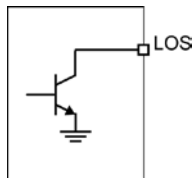

Figure 2g. LOS Output Structure
The post amplifier generates a selectable chatter-free loss-of-signal (LOS) or signal detect (SD) open-collector TTL output as shown in Figure 2g. LOS/SD is used to determine that the input amplitude is too small to be considered as a valid input. When the LOSS function is selected ( $LOS/SD\_SEL=1$ ), LOS/SD asserts high if the input amplitude falls below the threshold set by  $LOSLVL$  and de-asserts low otherwise. If SD function is selected ( $LOS/SD\_SEL=0$ ), LOS/SD asserts low if the input amplitude falls below the threshold set by  $LOSLVL$  and de-asserts high otherwise. LOS/SD can be fed back to the JAM input to maintain output stability under a loss of signal condition. Jam de-asserts low the true output signal without removing the input signals. Typically, 3dB LOS hysteresis is provided to prevent chattering.